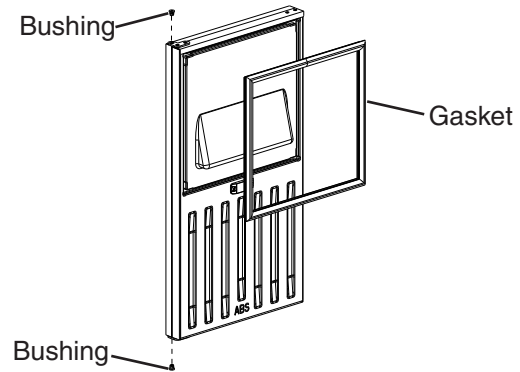

Fig. 27
8) Replace the door gasket in its proper orientation. Reinsert the bushings into hinge (C1) and hinge (C2) (the hinges attached to the door). See Fig. 27.